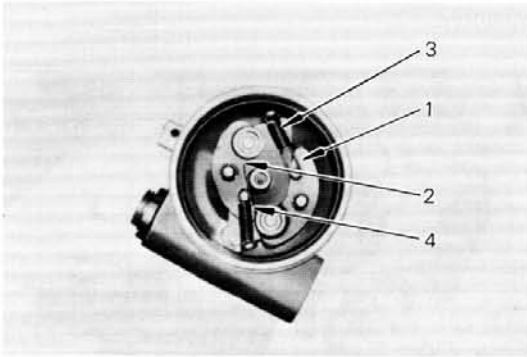

Fig. 7-18 Assembling Governor
3. Assemble the governor weights (1) and (2) and the governor springs (3) and (4). Take care on the assembling direction of the governor springs as shown in figure 7-18. Also lubricate the connections and the pins with engine oil, and check for smooth operation.